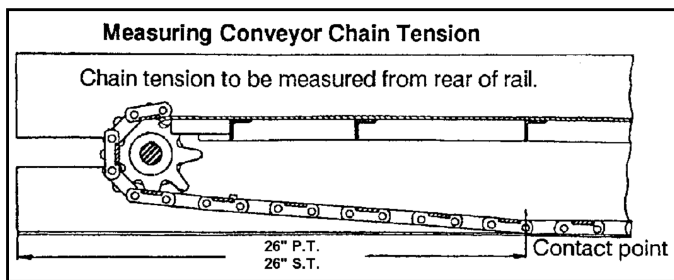

Figure 3-1
- Check the Conveyor Chain slack periodically. Check the tension by measuring the distance between the end of the rear rail and the point where the chain contacts the lower flange on the rail. The correct distance for adjustment is 26" to 30". (See Figure 3-1).